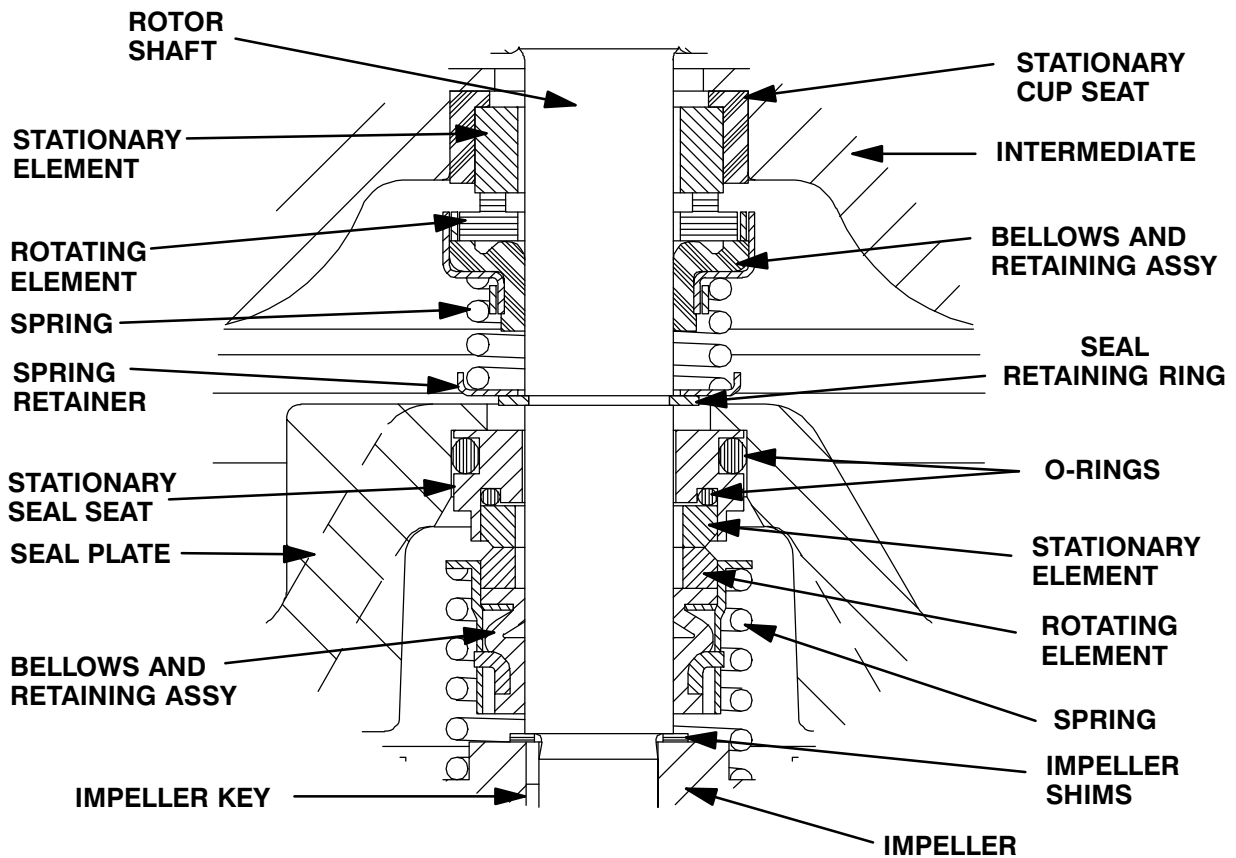

Figure 3. Upper And Lower Seal Assemblies
Install the shaft seals as illustrated in Figure 3.
Apply a **light** coating of oil to the seal seating surface on the shaft, the groove for the retaining ring (48), and I.D. of the bellows. Inspect the seal face to ensure that it is clean and dry. If cleaning is necessary, use a clean tissue to wipe in a circular pattern. Slide the seal rotating portion onto the lubricated shaft as shown in Figure 3. Apply firm, steady pressure on the seal retainer until it slides down the shaft and the seal faces contact.
ing ring (48). See Figure 3 for the proper order of seal assembly.
Unpack the stationary seat and element, and check that the O-rings are properly installed (see Figure 3). Subassemble the stationary element in the stationary seat. Apply a **light** coating of oil to the seal plate bore and the O.D. of the of the seal seat. Keep the sealing face dry.
Slide the seal spring over the shaft and bellows retainer. See Figure 3 for proper order of seal assembly.